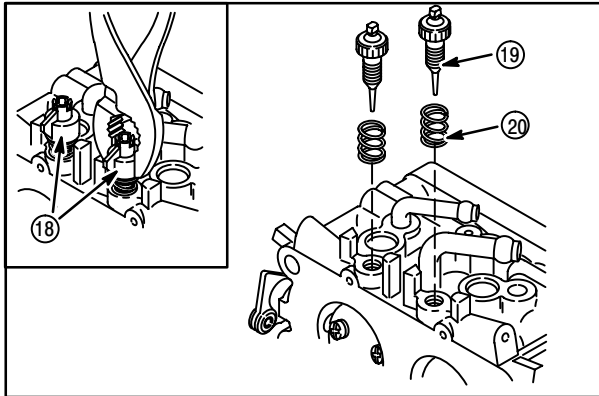

Fig. 65
- Remove idle mixture screws (19) and springs (20), **Fig. 65**.
**NOTE:** If idle mixture screws are equipped with adjustment limiter caps, remove the caps (18) BEFORE removing idle mixture screws, inset, Fig. 65.